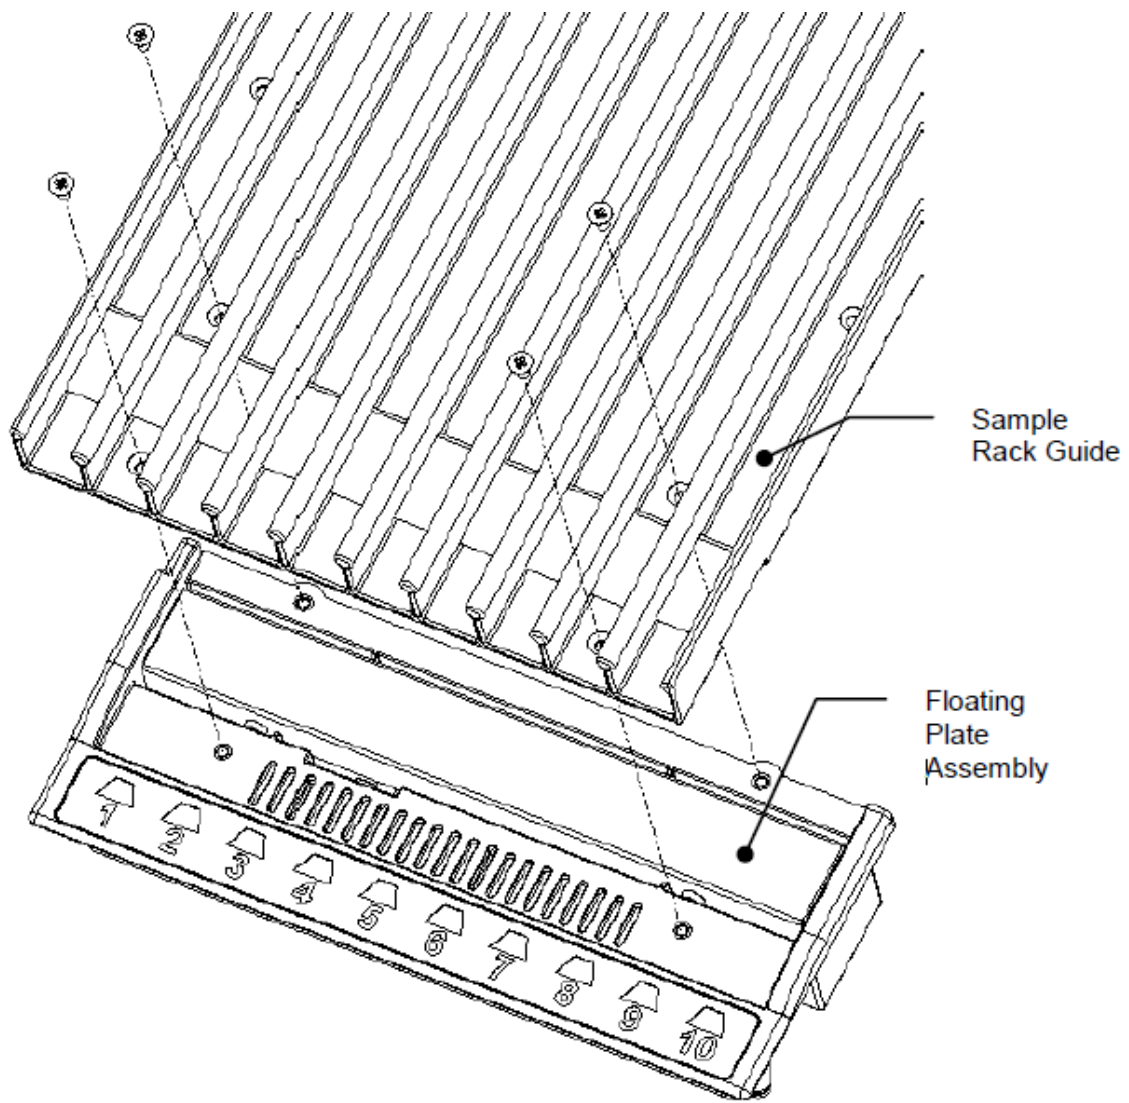

Figure L-3: Removing the Sample Rack Tray
1. Remove the Sample Rack Guide (Figure L-3) by unscrewing the four M3x6 Posi Flat Head Screws.